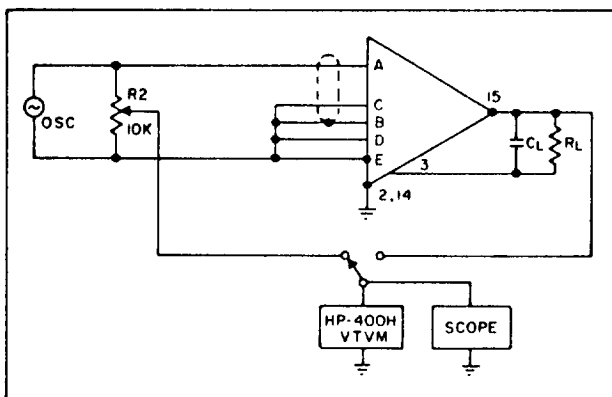

Figure 6-2. Frequency Response Test Circuit ( $G < 1$ )
- 1) Connect the amplifier as shown in Figure 6-2. R2 is a multi-turn potentiometer, as before.
- 4) Repeat steps (4), (5), (6), and (7) of the previous procedure.